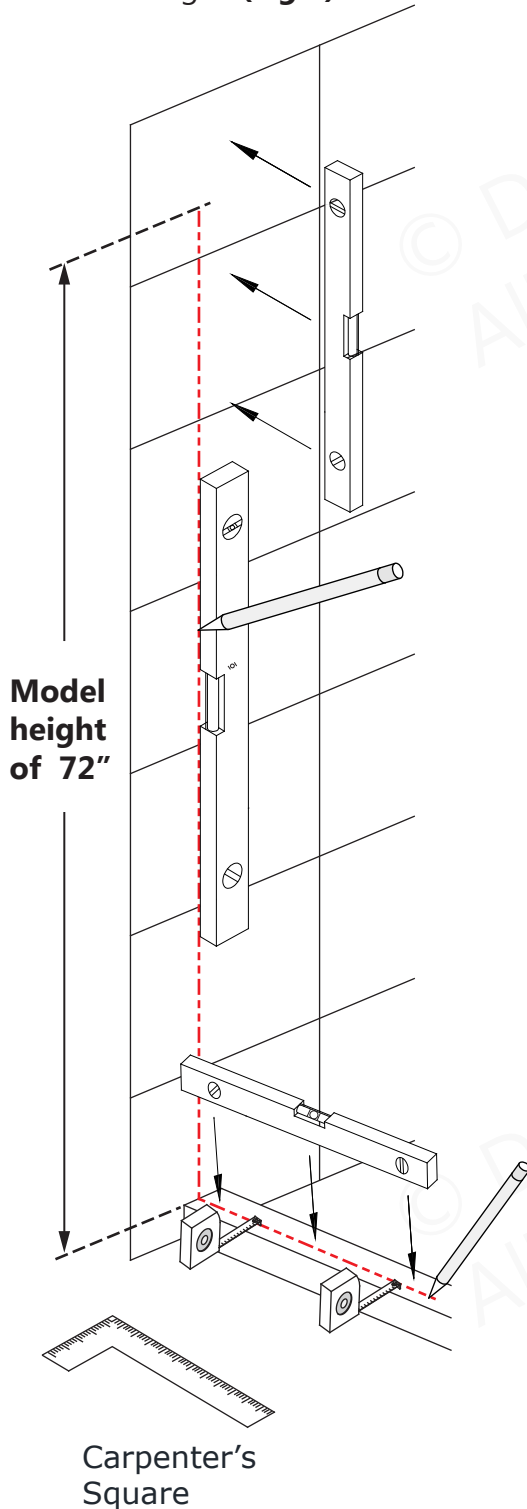

Fig 1
1. Check the wall for plumb and the threshold for level. Draw a line on the threshold and on the wall to represent the centerline of the U-Channel. Make sure the line on the threshold is parallel to the outside edge. **(Fig 1)**